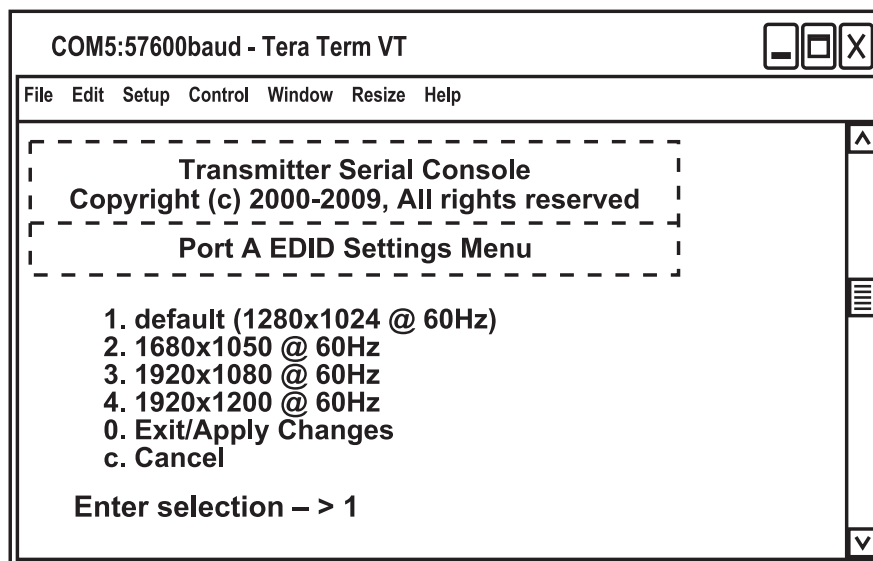

Figure 4-32. EDID Settings Menu.
5. Enter the number that represents the desired preferred timing, enter "0" (zero) to Exit/Apply Changes or enter "c" to Cancel. See Figure 4-32.